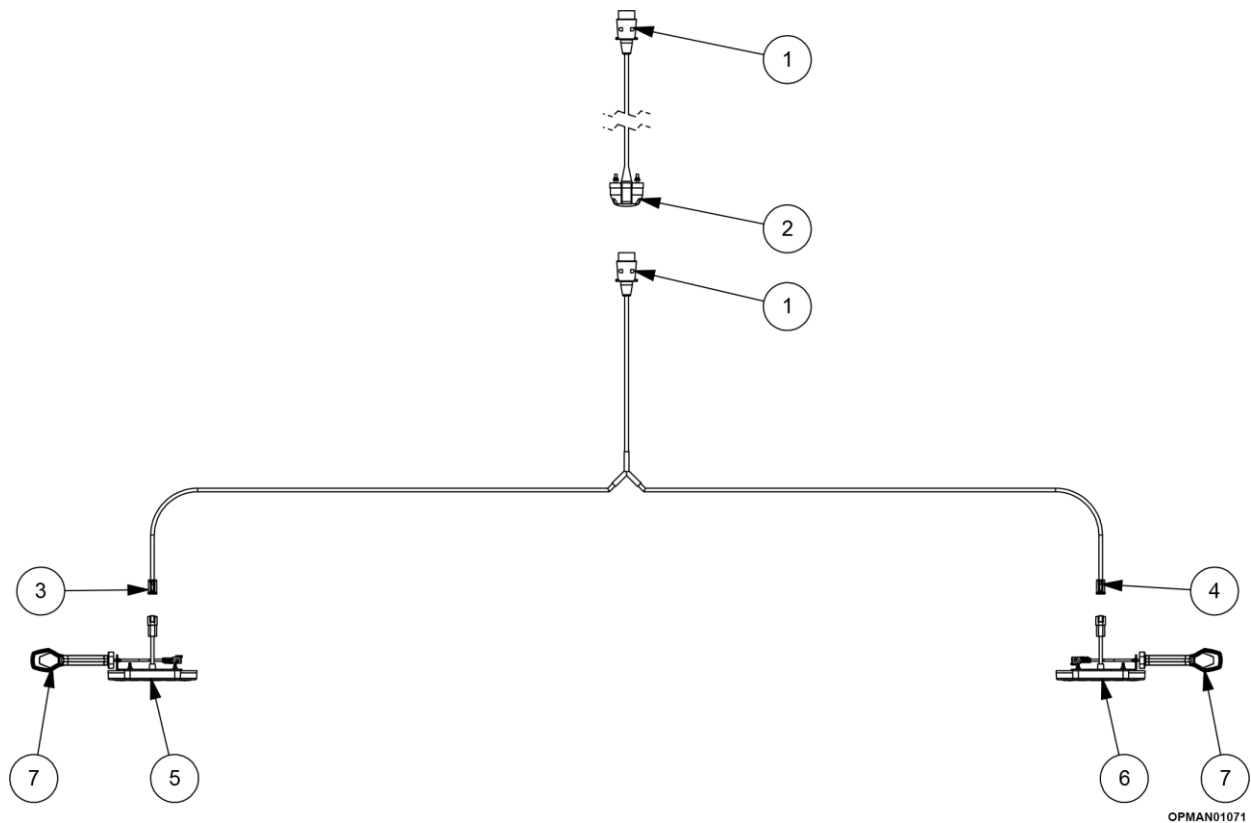

Figure 5.75 – Trident Lighting Loom
7-pin Durite Plug x2 see Figure 5.75 (1)
7-pin Durite Socket x2 see Figure 5.75 (2)
Left-hand Light see Figure 5.75 (3) & Figure 5.75 (5)
Right-hand Light see Figure 5.75 (4) & Figure 5.75 (6)
Marker Light x2 see Figure 5.75 (7)